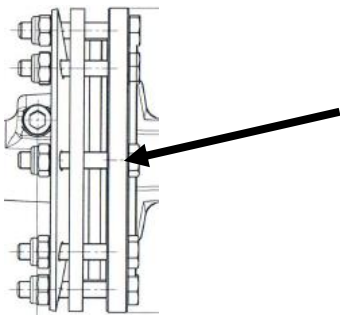

Figure 71
3. Loosen the bolts retaining the clutch spring. Figure 71